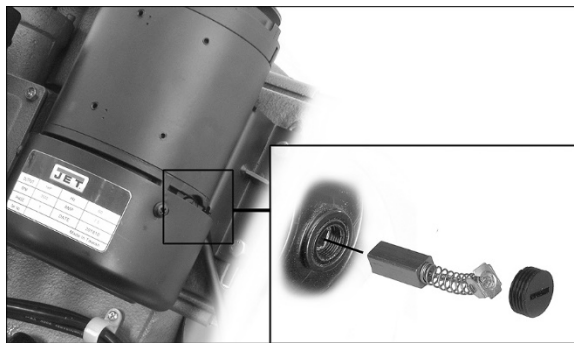

Figure 10-2: Carbon Brush Inspection
2. Remove motor fan cover (A, Figure 10-2).
3. Unscrew and remove plastic cap with flat blade screwdriver. See Figure 10-2.